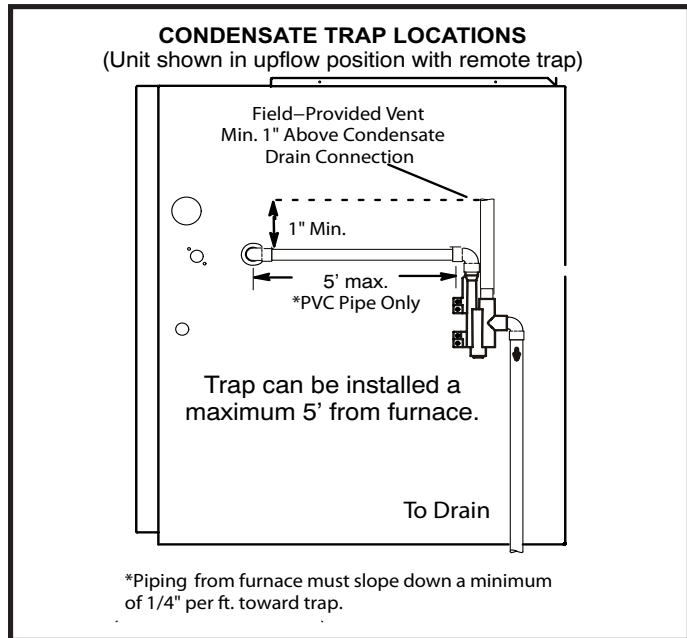

Figure 44
5. Install field provided vent on trap assembly as shown in Figures 44 through 46. Trap must extend at least 1" above the furnace condensate drain connection in upflow applications and 4-1/2" above the bottom of the cabinet in horizontal applications.